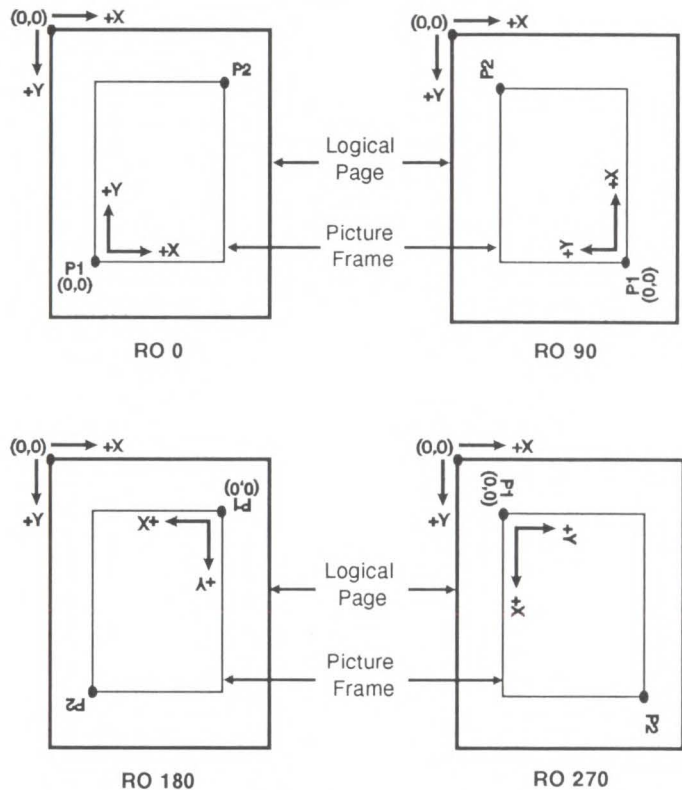

Figure 15-5. Modifying HP-GL/2 Orientation
The relationship between the coordinate systems can be changed using the HP-GL/2 Rotate (RO) command. Rotations specified by the RO command are relative to the default HP-GL/2 orientation. Figure 15-5 shows how the RO command modifies the default HP-GL/2 orientation.